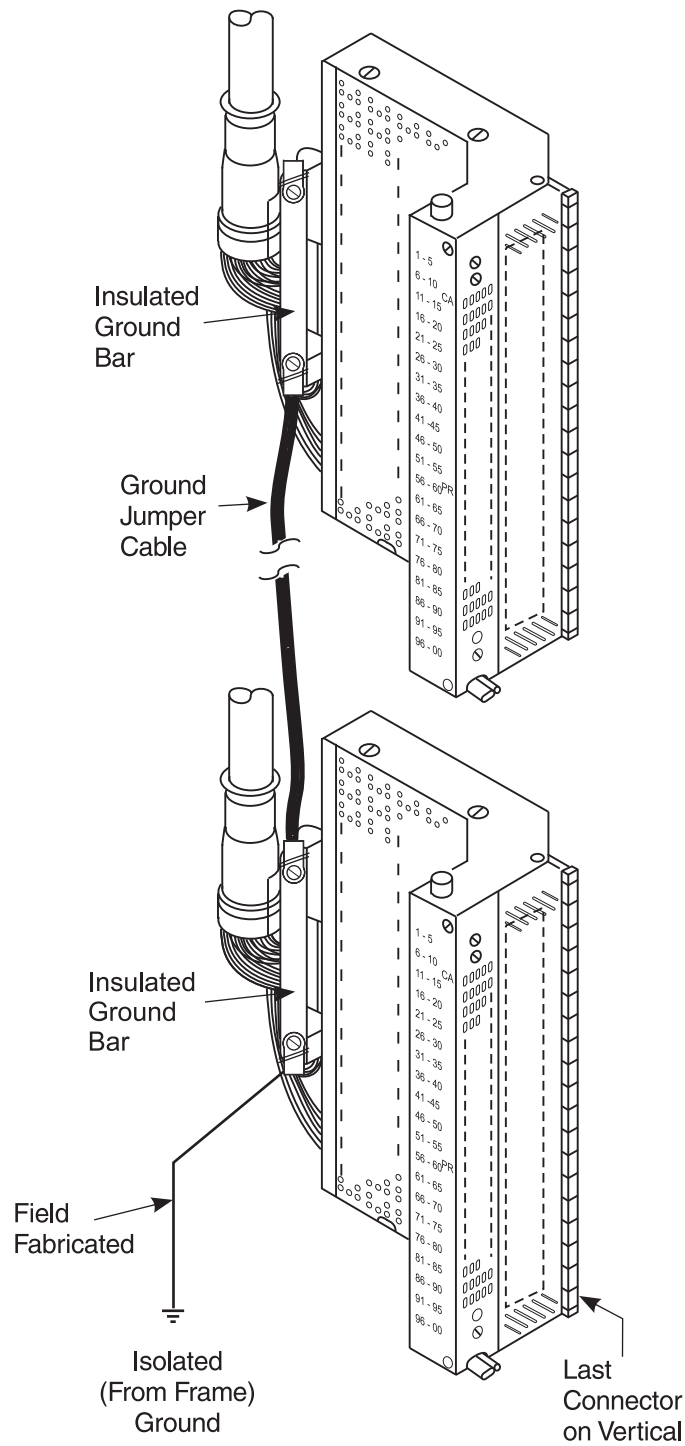

Fig. 3
6. Using the screws, nuts, and lockwashers provided in the kit, connect the ground jumper cable (provided) between the top of the insulated ground bar of one connector to the bottom of the next insulated ground bar of the next connector. Continue until the ground bars of all connectors on the vertical are interconnected (Fig. 3).
8. Field fabricate and install (using No. 6 stranded conductor) a jumper cable from the insulated ground bar of the last connector on the frame vertical to the isolated ground point (Fig. 3).